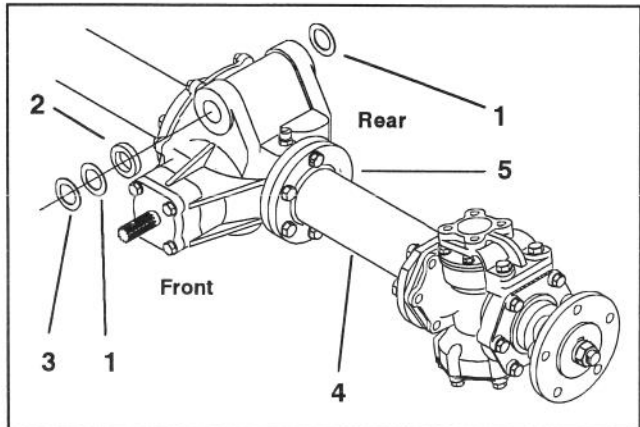

Figure 3
1. Mount new axle to axle support with new washers and pivot pin previously removed (Fig. 3 & 4). Install pivot pin from front of axle support. Washers to be positioned between front and rear of axle and axle support as shown in figure 3. One or two of each washer may be required between front of axle and axle support.
3. Remove (2) rear m10 x 30 mm capscrews and lockwashers securing right and left axle tubes to axle. Retain lockwashers and discard capscrews (Fig.3).